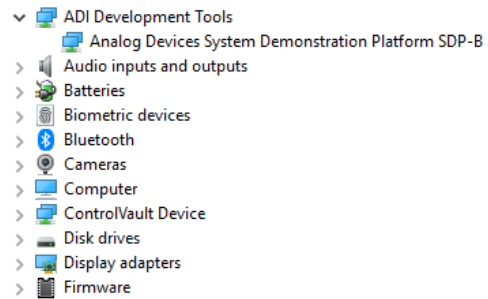

Figure 15. Device Manager Menu
5. When plugging in the SDP controller board via the provided USB cable, allow the **Found New Hardware Wizard** to run. Check that the SDP drivers are installed and that the SDP controller board are connected properly by checking the **Device Manager** of the PC. If the drivers and board are connected properly, the **Analog Devices System Demonstration Platform SDP** appears under **ADI Development Tools** (see Figure 15).